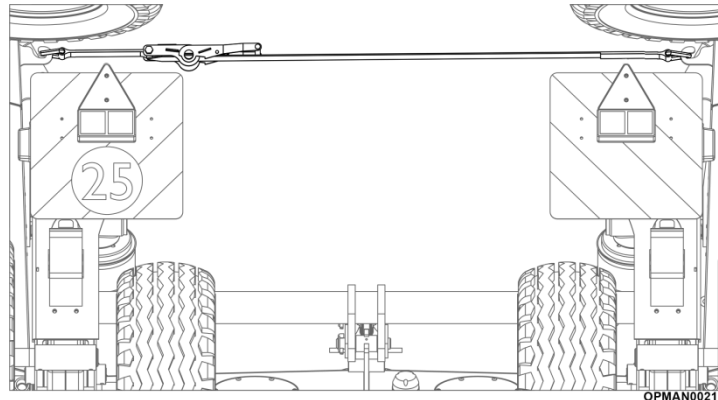

Figure 4.17
- 4.6.1.2 Remove the ratchet securing strap; see Figure 4.17.
- 4.6.1.10 Fit the ratchet securing strap; see Figure 4.17.